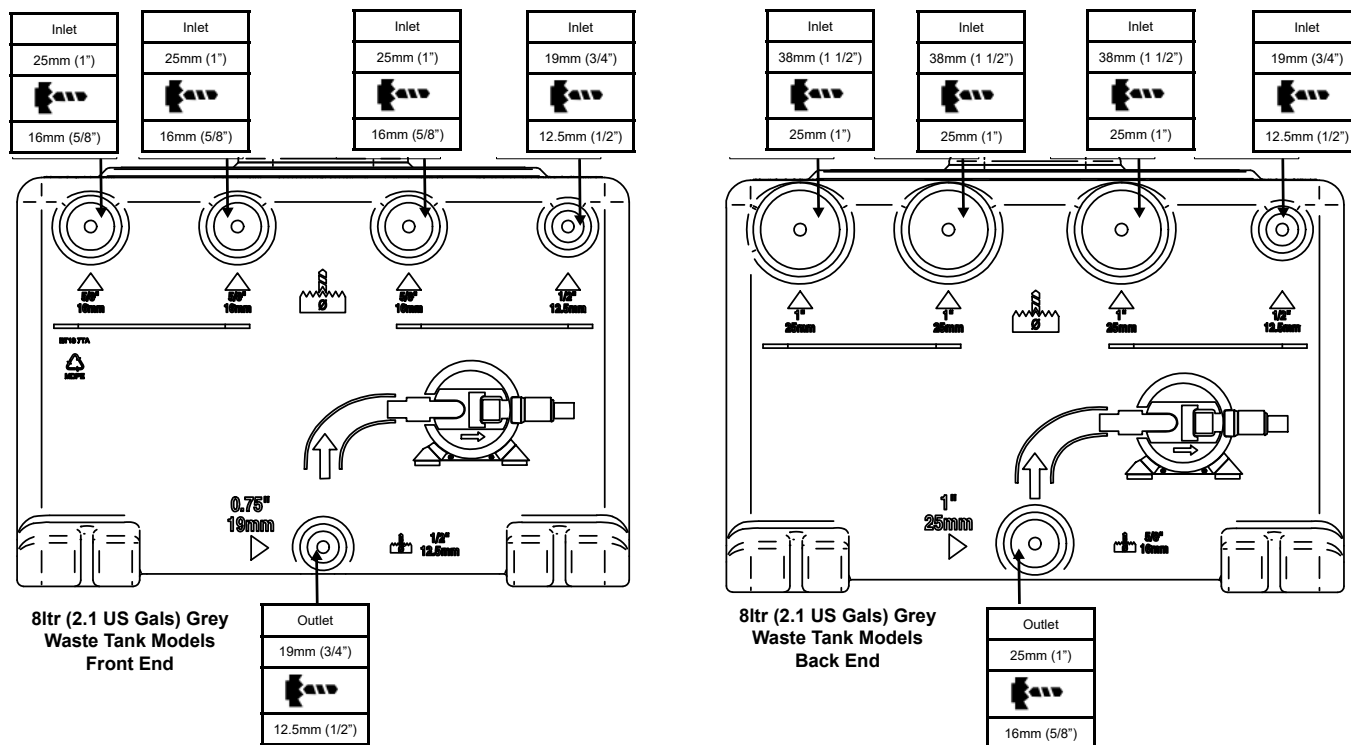
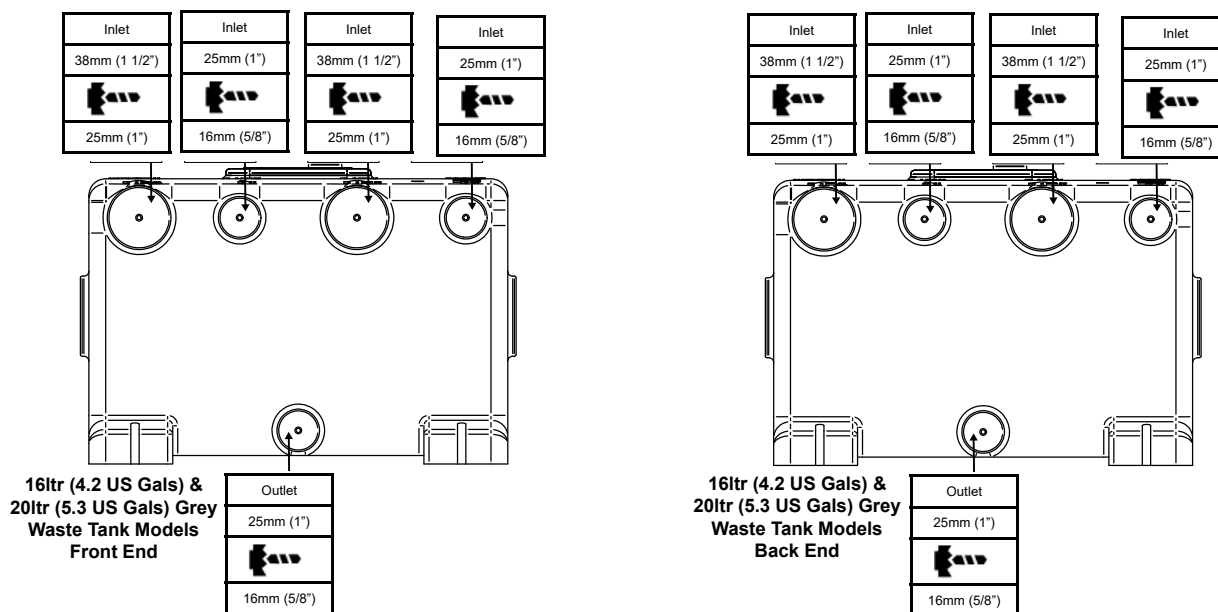

Figure 3 Port Sizes & Recommended Drill Diameters For 8ltr (2.1 US Gals) Grey Waste Tank Models
Figure 4 Port Sizes & Recommended Drill Diameters For 16ltr (4.2 US gals) And 20ltr (5.3 US gals) Tank Models
| Fig. 3 | Port Sizes & Recommended Drill Diameters For 8ltr (2.1 US gals) Grey Waste Tank Models |
| Fig. 4 | Port Sizes & Recommended Drill Diameters for 16ltr (4.2 US gals) and 20ltr (5.3 US gals) Grey Tank Models |
Step 1: Drill only the ports which are to be used in the installation. Port sizes and recommended drill diameters are shown in Figure 3 for 8ltr (2.1 US Gals) tank models, and Figure 4 for 16ltr (4.2 US Gals) and 20ltr (5.3 US Gals) tank models. Ensure all swarf is removed from inside the tank after drilling.